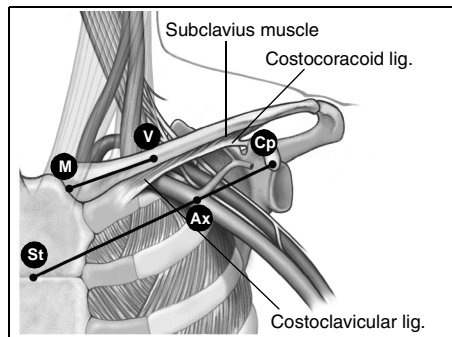

Figure 1. Landmarks identify the entry point for a percutaneous subclavian venipuncture.
1. Referring to Figure 1, identify points St (sternal angle) and Cp (coracoid process).